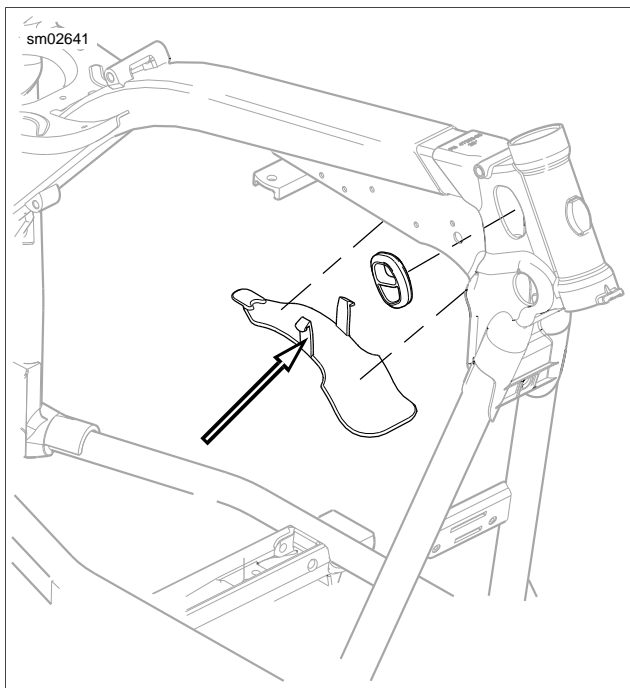

Figure 8-72. Harness Shield
13. See Figure 8-72. Remove harness shield by pushing both tabs of shield in at the same time.